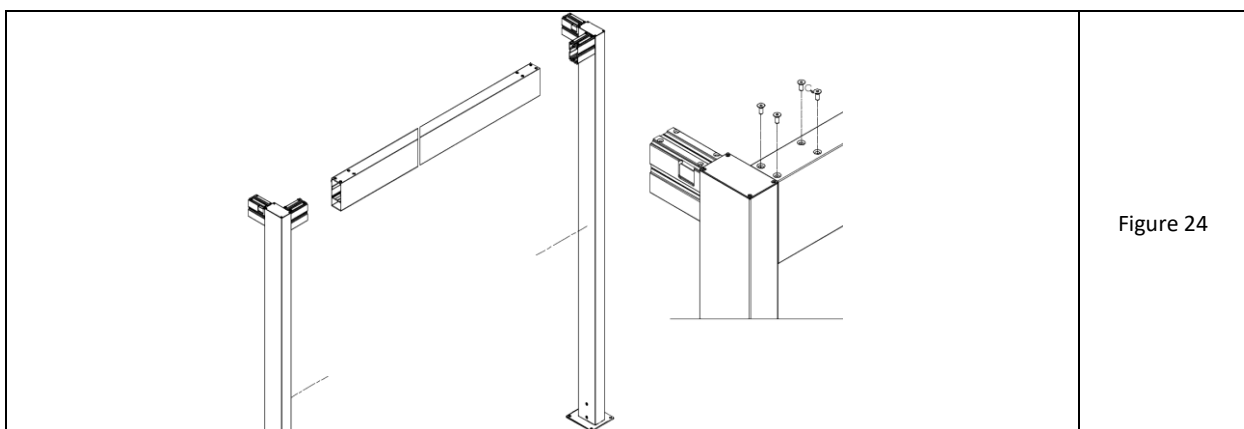

Figure 24
4. Integrate the cross frame by sliding it horizontally into the cross beam (without wall drillings) at both ends of the previously merged posts (fig. 24-left). Pay attention to the correct setting of outflows and foot types.
5. Screw the corners from the top with screws as in point 3 (fig. 24-right).